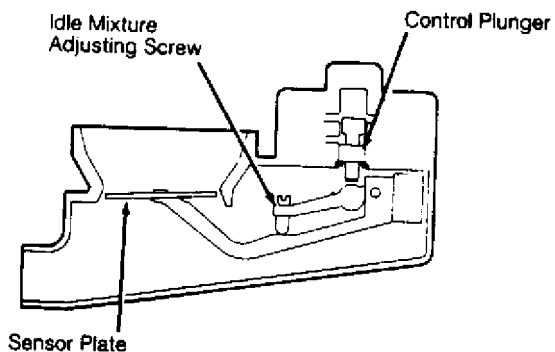

Fig. 1: Identifying Airflow Sensor Components (Fox & Jetta GLI)
2) Check sensor play by slowly moving sensor plate through travel range with a magnet. See Fig. 1. Resistance should be felt. Move plate back to the rest position. There should be no resistance. If binding is felt, loosen sensor plate hold-down bolt and adjust plate to center of venturi.